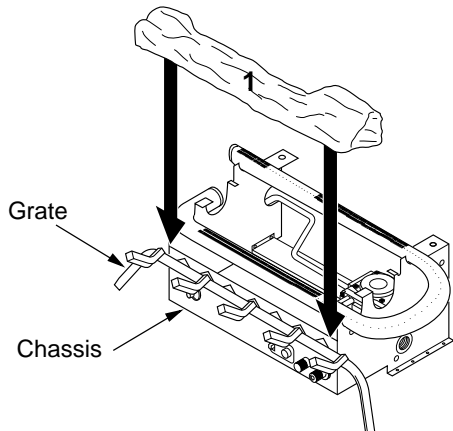

Figure 26 - Installing Golden Oak 5-Piece Log Set - Log 1
1. Place front log (#1) on top of the grate (see Figure 26). Log will fit down between grate and front of chassis.